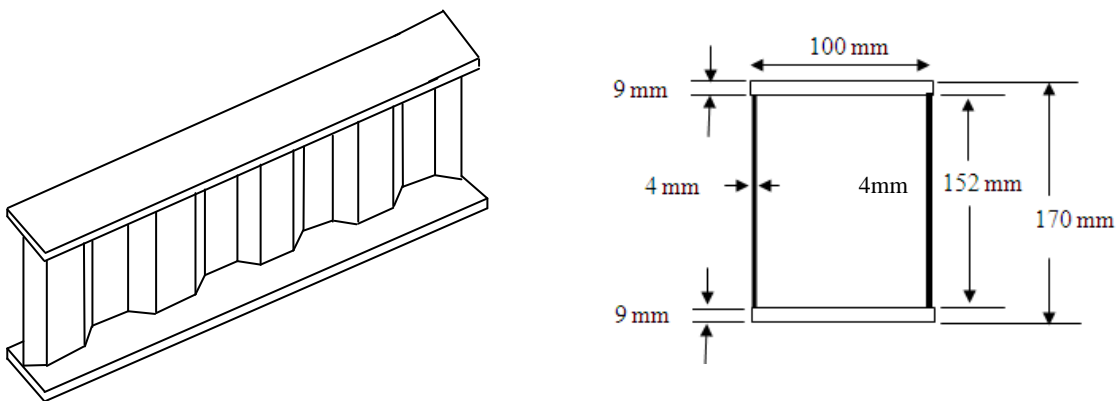

Figure 5 : Trapezoidal Web Profile Steel Beam Section
- b) From the Figure 5, calculate **FIVE (5)** of the section properties of the non-uniform steel that influence the Lateral Torsional Buckling behavior.